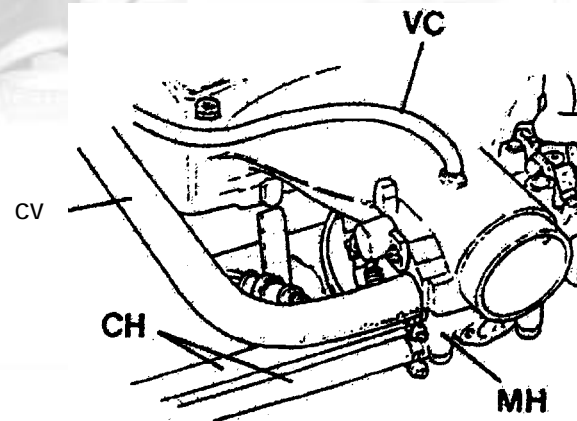

Fig.2.14 Throttle butterfly housing
For quick warm-up, a manifold hot spot (MH) fig.2.14 is fitted under the plenum chamber intake in the area of the throttle butterfly; the hot spot is heated by coolant passing through hoses (CH) from the engine.